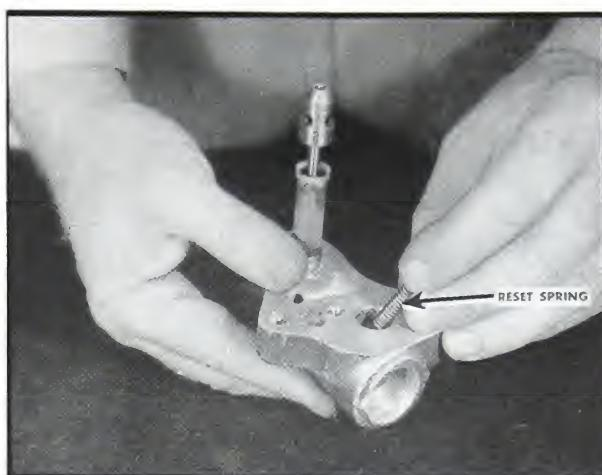

Fig. 5-259. Insert spring
6. Insert the reset spring. Fig. 5-259.